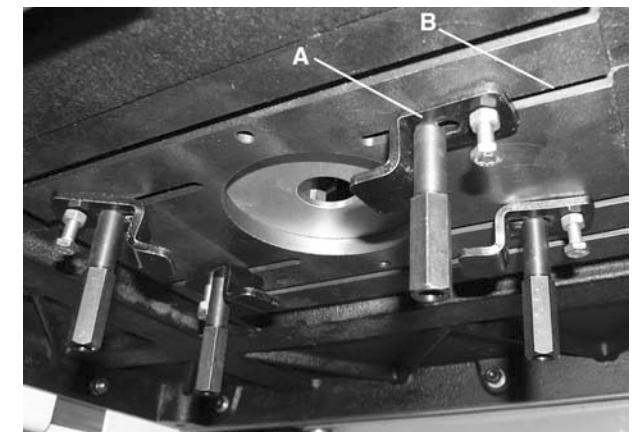

FIGURE 11
- 1) Slide four router clamping bracket assemblies (A) Fig.11 into the appropriate T-slots (B) underneath the router table.